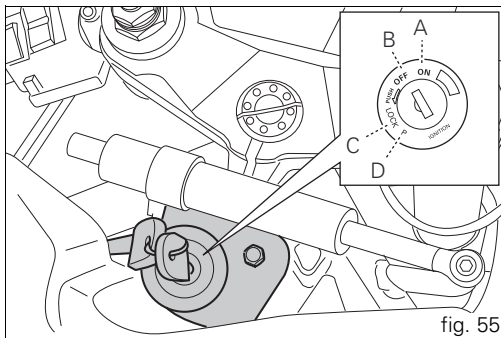

fig. 55
1) Move the ignition key to ON (fig. 55). Make sure both the green light N and the red light  on the instrument panel come on.